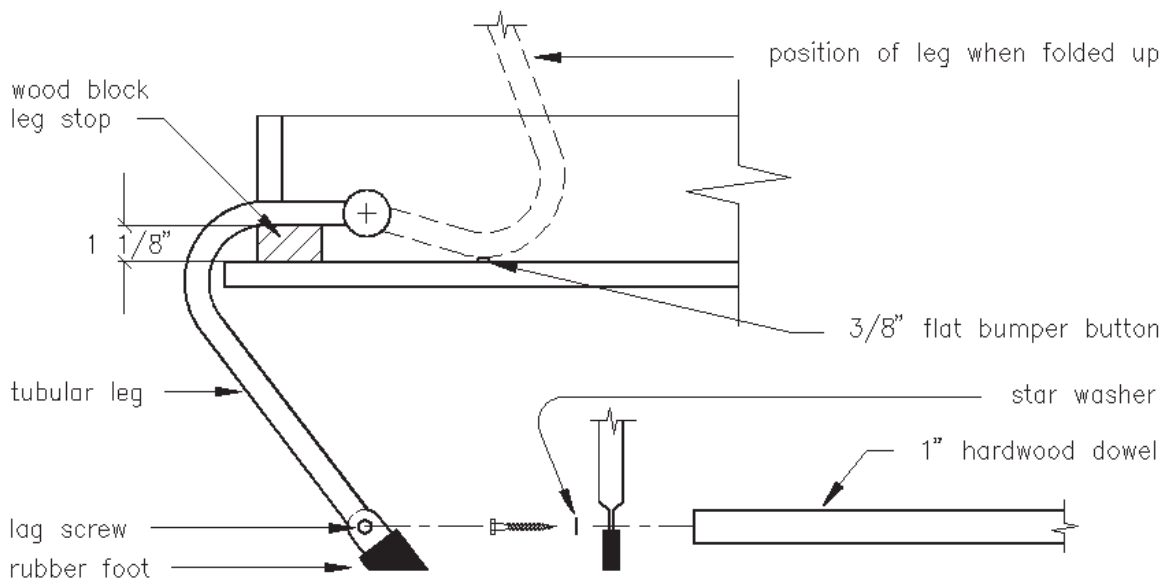

Figure 13. Installing the Legs.
- Pull the panel unit open to a convenient working height. Prior to installing the legs, lubricate the leg attachment hole with a little candle wax. Remove the 5/16" Nylock hexagon nuts and the 5/16" x 3/4"(OD) flat washers from the legs, leaving the "Lexan" black plastic washers in place. Insert the leg-screws through the rails, replace the washers and nuts and tighten the nuts so that both legs pivot with an equal, and just a slight amount of, friction.
- Glue and clamp the legs stops, positioning them so that they align with the outside face of the foot rail, are snug against the side rails and are 1 1/8" high, see **Figure 13**.
- Attach the two 3/8" flat Bumper Buttons to the surface of the Bed Panels where the legs, when folded up, would contact the Panels, see **Figure 13**. Gently close the bed.